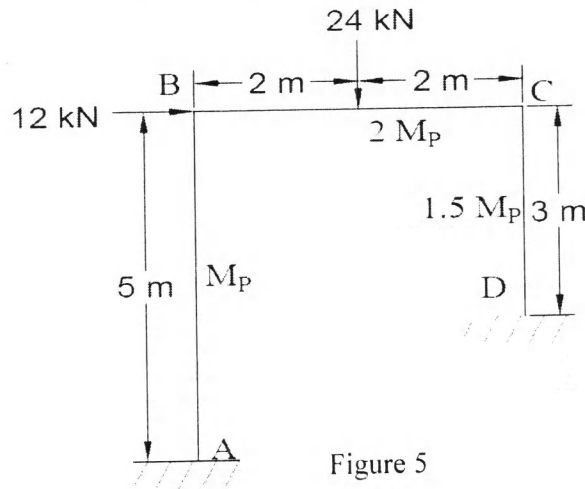

Figure 5
6. Determine the plastic moment capacity M_p for the frame shown in the Figure 5. (Loads shown are already factored.) [3]